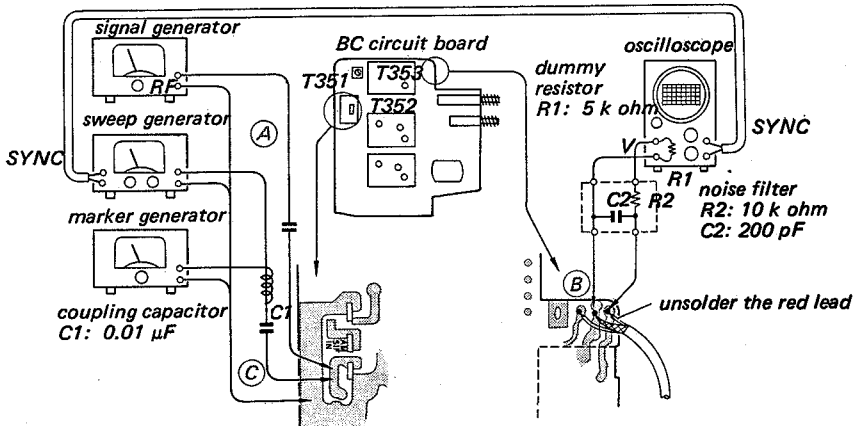

Fig. 23
2. Unsolder the tuner output lead from signal circuit board (BC).
3. Connect a dummy resistor (5k-ohm) across the scope input terminal through a noise filter consisting of a 10k-ohm resistor and a 200pF capacitor as shown in Fig. 23.
4. Connect a sweep/marker generator to the AM-SIF input to the signal circuit board (BC) through a 0.01μF capacitor as shown in Fig. 23.
Scope	AM-SIF output (B in Fig. 23)
Scope	AM-SIF output (B in Fig. 23).